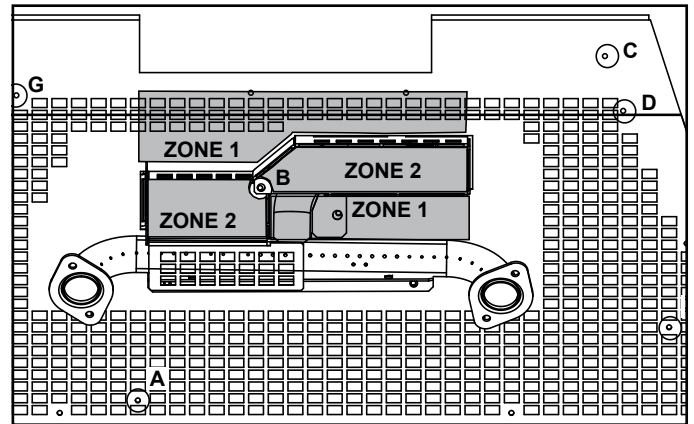

Figure 7 Zone 2 Media Placement
**MEDIA:** Place some of the media on top of the pilot shield assembly in the areas marked “Zone 2” in Figure 7.